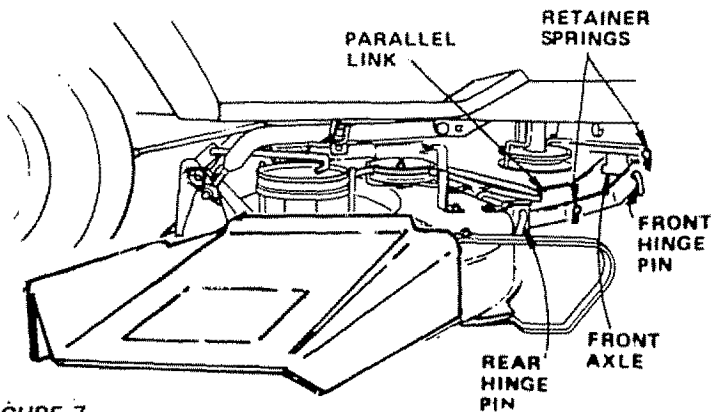

FIGURE 7
- Install front hinge pin through axle and parallel link (Fig. 7). Secure with retainer spring.
- Install rear hinge pin through mower lift brackets and parallel link (Fig. 7) Secure with retainer spring.
IMPORTANT: BEFORE DRIVING THE TRACTOR, INSTALL MOWER OR REMOVE MOWER PARALLEL LINK (Fig. 7).